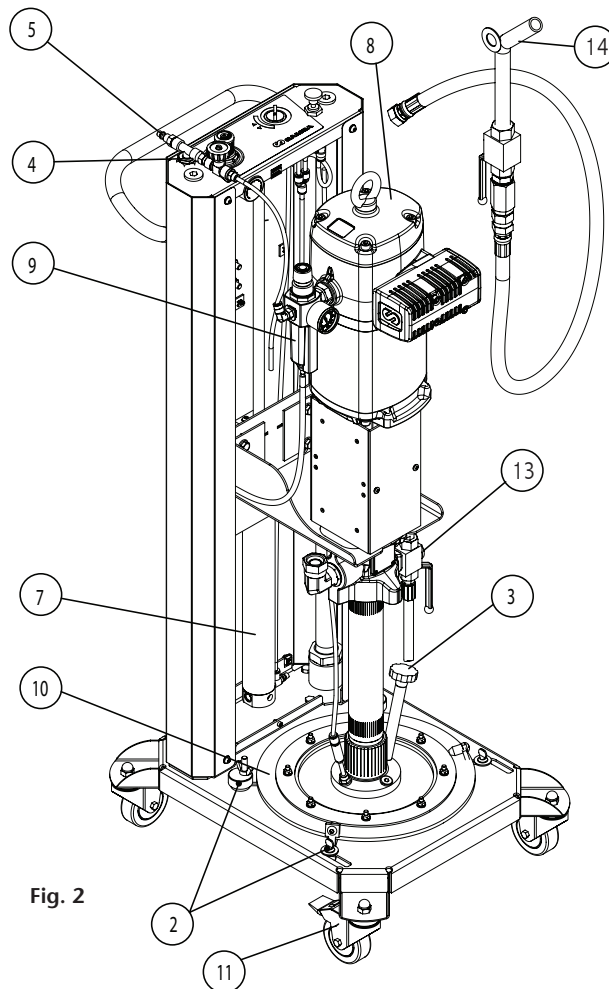
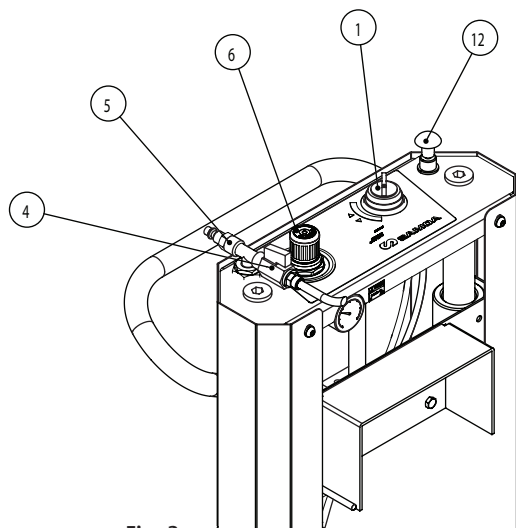
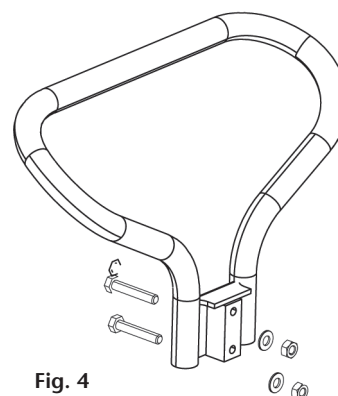

Fig. 2
Fig. 3
Fig. 4
Once verified that the package contents all the elements (Fig. 2) and the handlebar is assembled (Fig. 4), connect the air inlet to an 10 bar maximum compressed airline using the air inlet (5). Use the inductor pressure control (6) to adjust the lifter pressure to 5-6 bar (Fig. 3). Only for model (541900.770), connect the air inlet to 9.